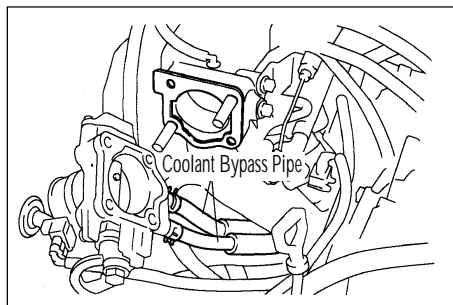

Figure 2-8
(4) Disconnect 2 bypass hoses, remove and check the throttle body (see Fig. 2-8).